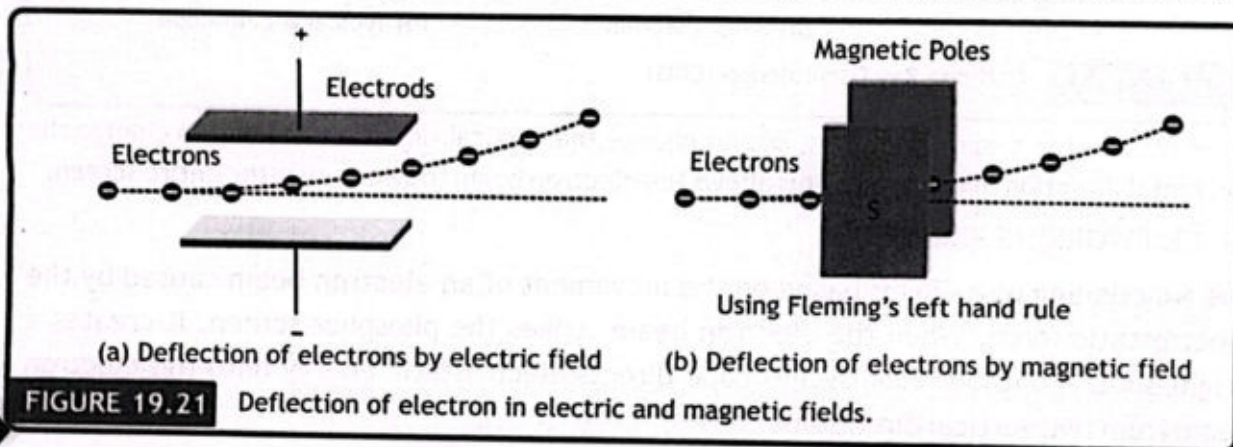

FIGURE 19.21 Deflection of electron in electric and magnetic fields.
A. Deflection of electrons by electric field: When an electron beam passes through an electric field then the electrons are deflected towards the positive plate, as shown in the figure 19.21 (a). The reason for this is that electrons are attracted by the positive charges and are repelled by the negative charges due to electric force. The degree of deflection of electrons from
B. Deflection of electrons by magnetic field: When an electron beam passes through a magnetic field then the electrons are deflected, as shown in the figure 19.21 (b). The degree of deflection of electrons from their original direction depends on the velocity of electron, strength of the applied magnetic field and the angle at which the electron enters into the magnetic field.